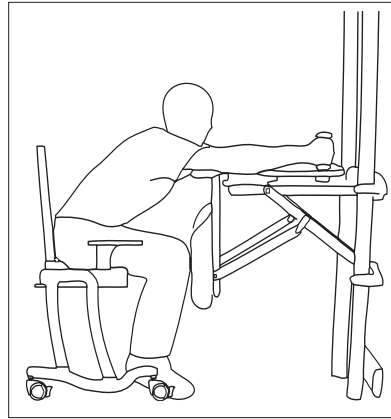

Figure 9a. The user approaching the trunk board and reaching out for the handholds.
- **Figure 9a:** Wheel the client to the Support Station facing the padded concave trunk board.